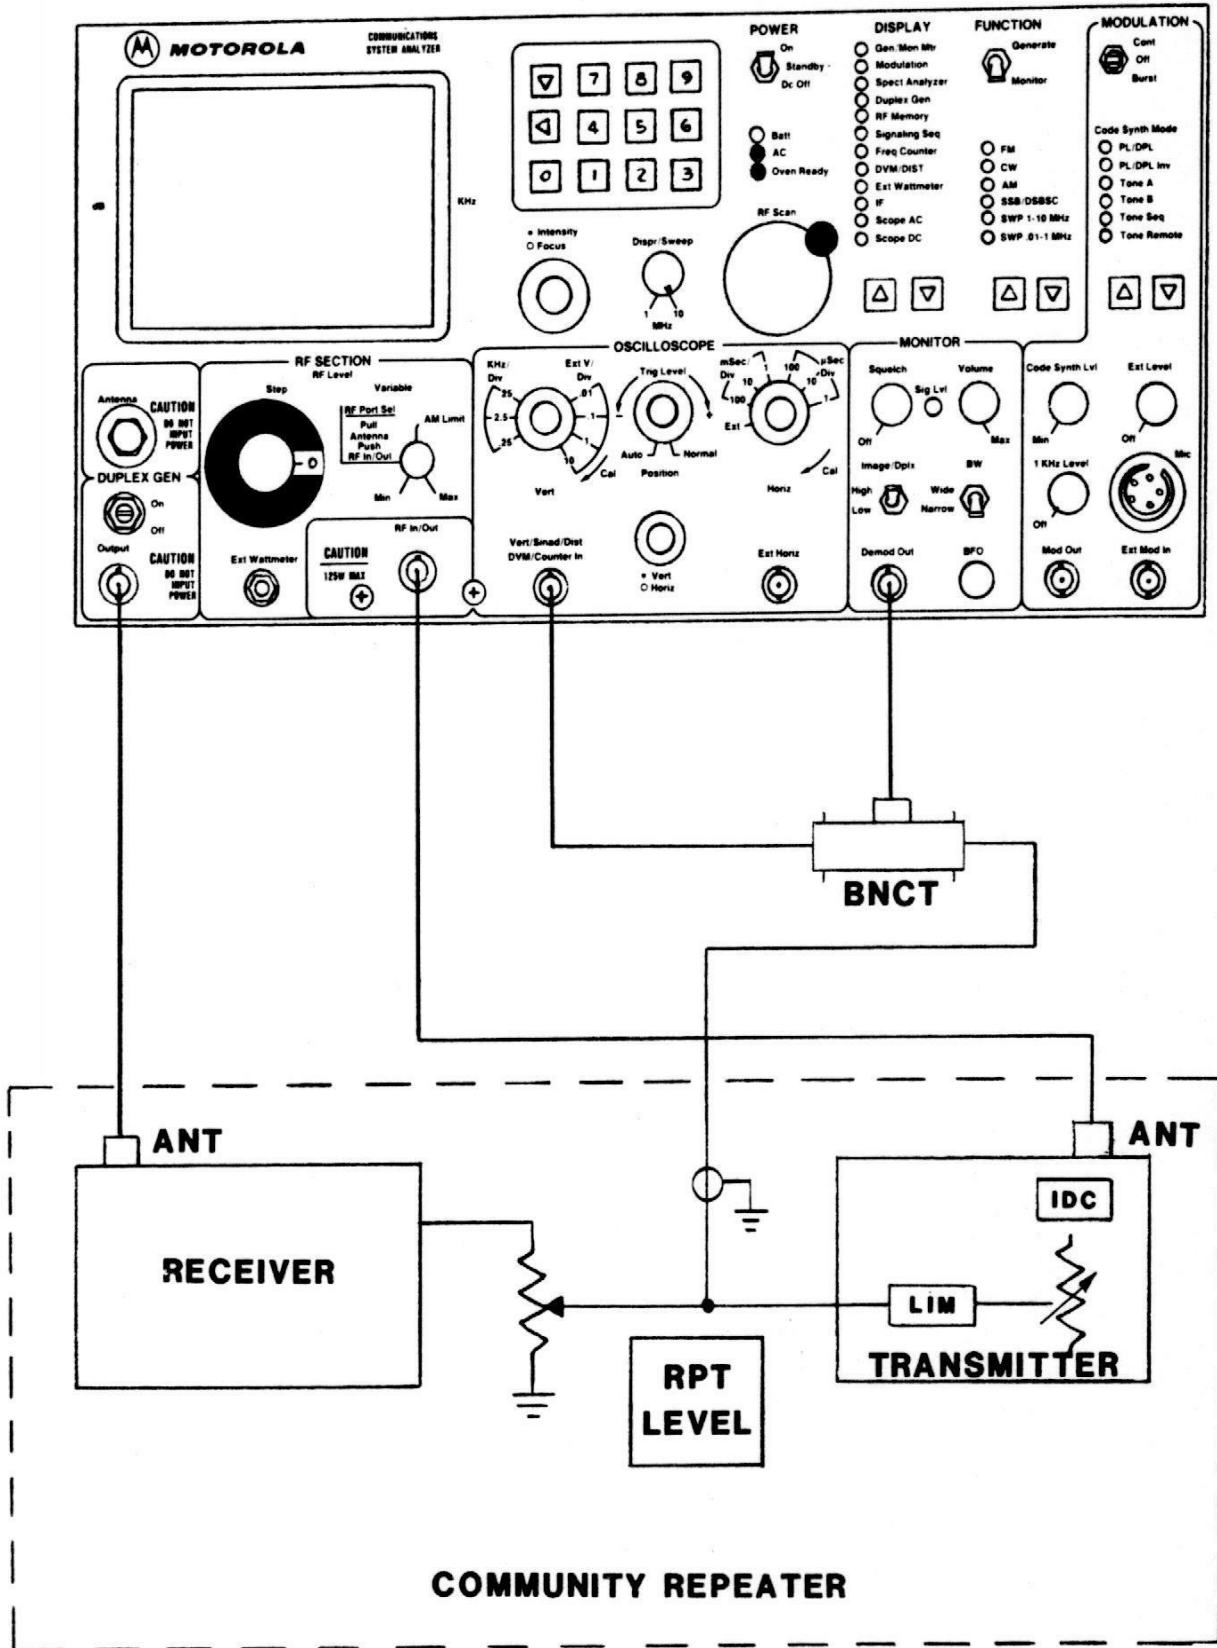

FIGURE 4-15. COMMUNITY REPEATER MODULATION SETUP
1. Connect the Analyzer to the repeater under test as shown in figure 4-15. The diagram illustrates a MICOR Community Repeater. Disable the receiver PL and set the squelch to threshold.